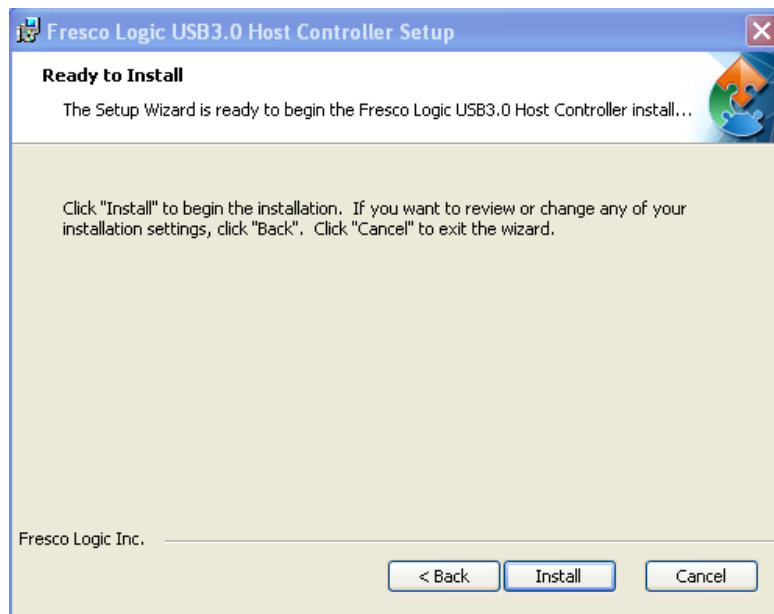

Figure 6-26: USB 3.0 Driver Choose Install Location
Step 8: The program is ready to install (**Figure 6-26**).